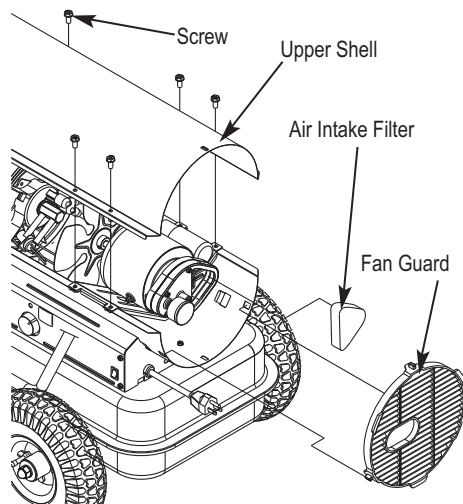

Figure 9 - Air Filter Access
- Remove upper shell and fan guard (See Air Intake Filter Figure 9).